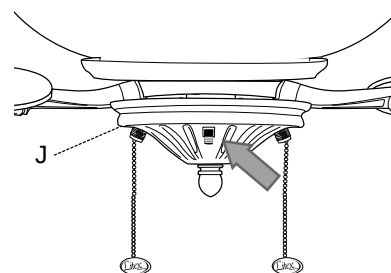

Fig. 3
3. Use the fan reverse switch, located on the switch housing (J), to optimize your fan for seasonal performance. [Fig. 3]